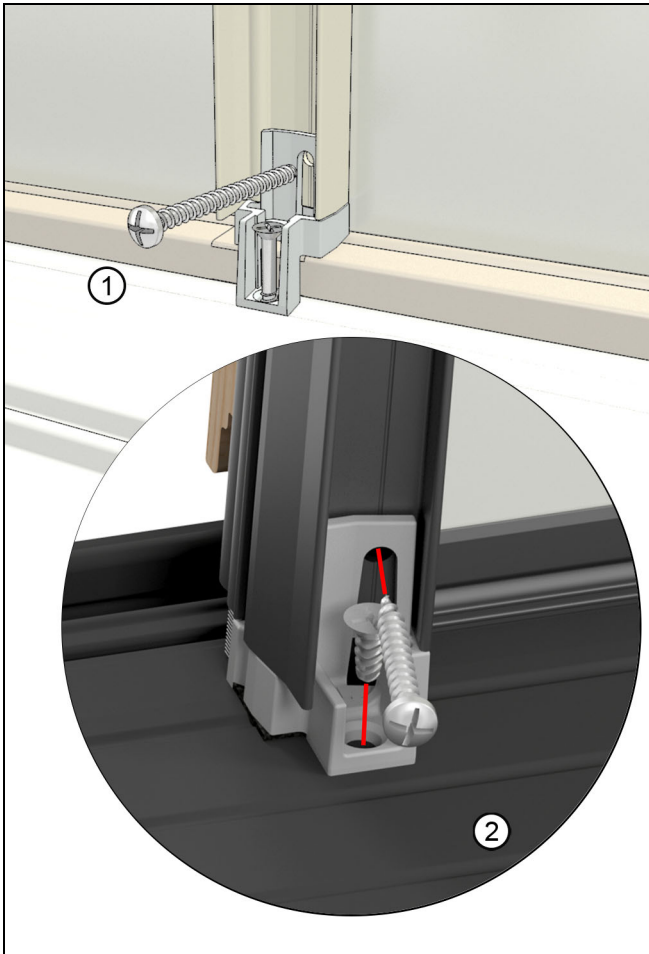

Figure 25
8. Install the sill post reinforcement by aligning it into the sill post base and sliding it down to rest against the sill. Use #8 x 3/8" screw to fasten sill post reinforcement to the sill. Use #8 x 1-7/8" screw to fasten the sill reinforcement to the stationary panel. See Figure 25.